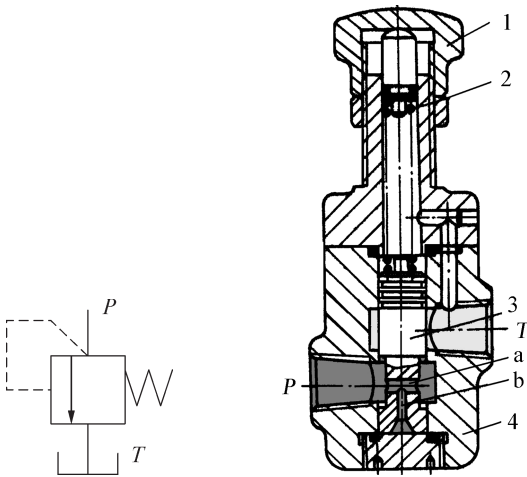

Fig.5-18 Symbol of Pressure Release Valves (direct)
The common types of pressure-control valves mainly include three categories: (1) pressure release valves (also called relief valves); (2) pressure-reducing valves; and (3) sequence valves. Symbols of these three valves are shown as Fig.5-18~5-20.